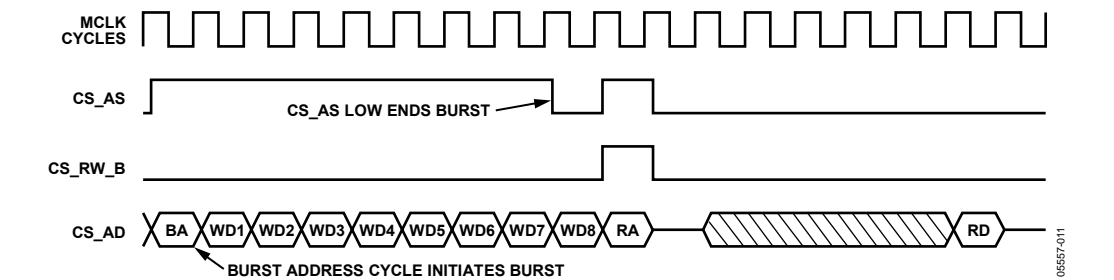
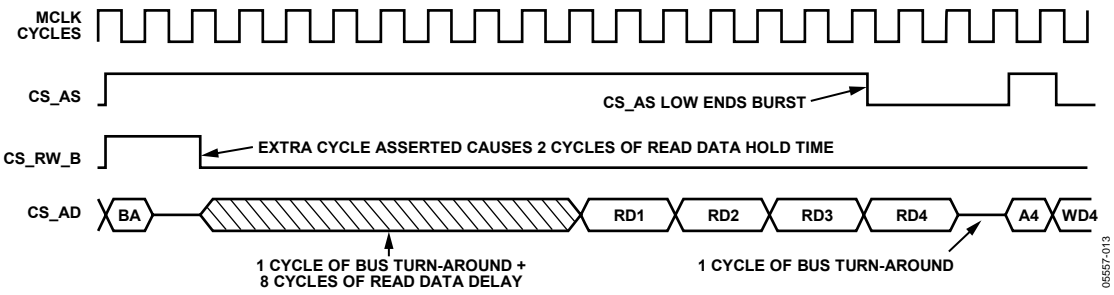

Figure 17. Write Burst Mode Functional Timing
Figure 19. Read Burst Mode with Read Data Hold Functional Timing
Burst mode is a special mode that allows for successive reads or writes with a predetermined addressing scheme. Figure 17 shows the burst mode operation of the bus. The primary purpose of burst mode is to allow fast writes into the waveform memory for each channel. Burst mode is initiated and completely controlled via the bus interface pins of the ADATE207.
Burst mode is initiated with a special address cycle, as defined in Table 12. Burst mode cycles are shown in Figure 17 through Figure 19 and incorporate the following conditions:
- When extended read data hold mode is selected during a read burst, the internal address bus increments every other cycle, causing read data on the CS\_AD bus to change every other cycle, as shown in Figure 19.